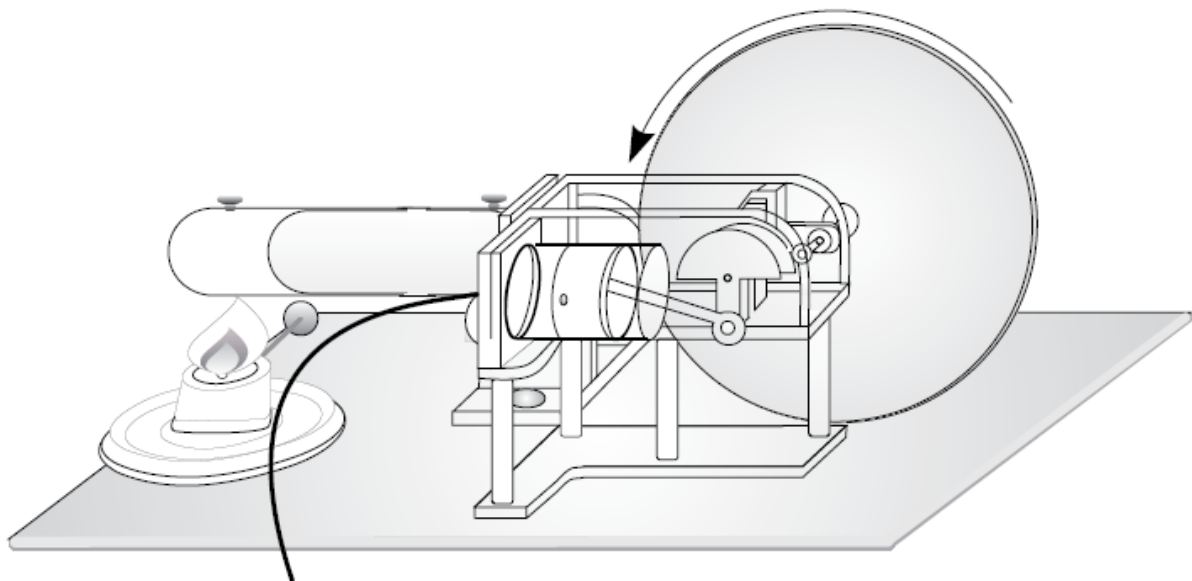

Fig. 4 Recording the operating pressure on the work piston
- Connect a pressure hoses between the “positive” hose connector of the sensor box and the hose connector on the work cylinder (see fig. 4).